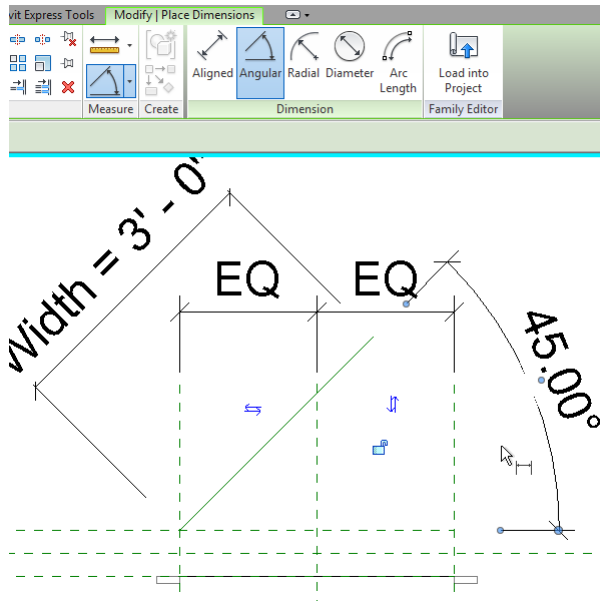

Figure 20—Create an angular dimension between the Exterior Reference Plane and the Reference Line
3. Place the Dimension (See Figure 20). Cancel the command.